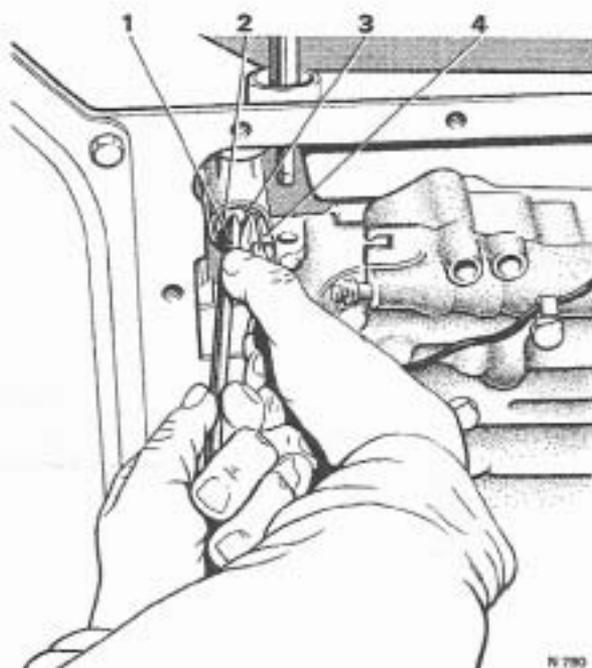

FIG. T143 REMOVING THE PRESSURE REGULATOR VALVE
12. Using a screwdriver or a steel rod, push the regulator boost valve sleeve against the pressure regulator spring (see Fig. T143).